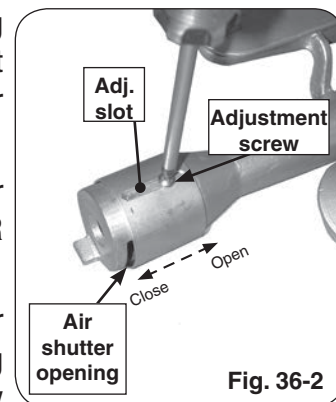

Fig. 36-2
3. Adjust the air shutter opening by loosening the adjustment screw with a screwdriver, then sliding the air shutter backward or forward to open or close the air shutter opening (see Fig. 36-2).